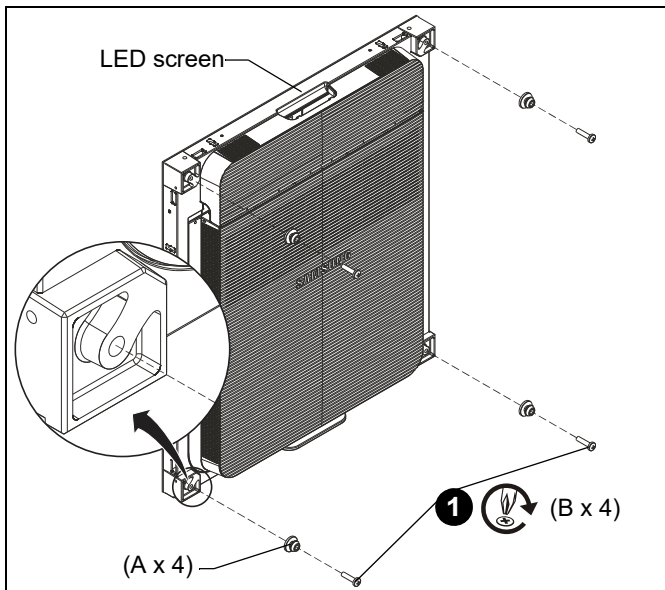

Figure 1
1. Attach four mounting buttons (A), one to each corner of LED screen, with four M6 x 20mm Phillips pan head screws (B). (See Figure 1)